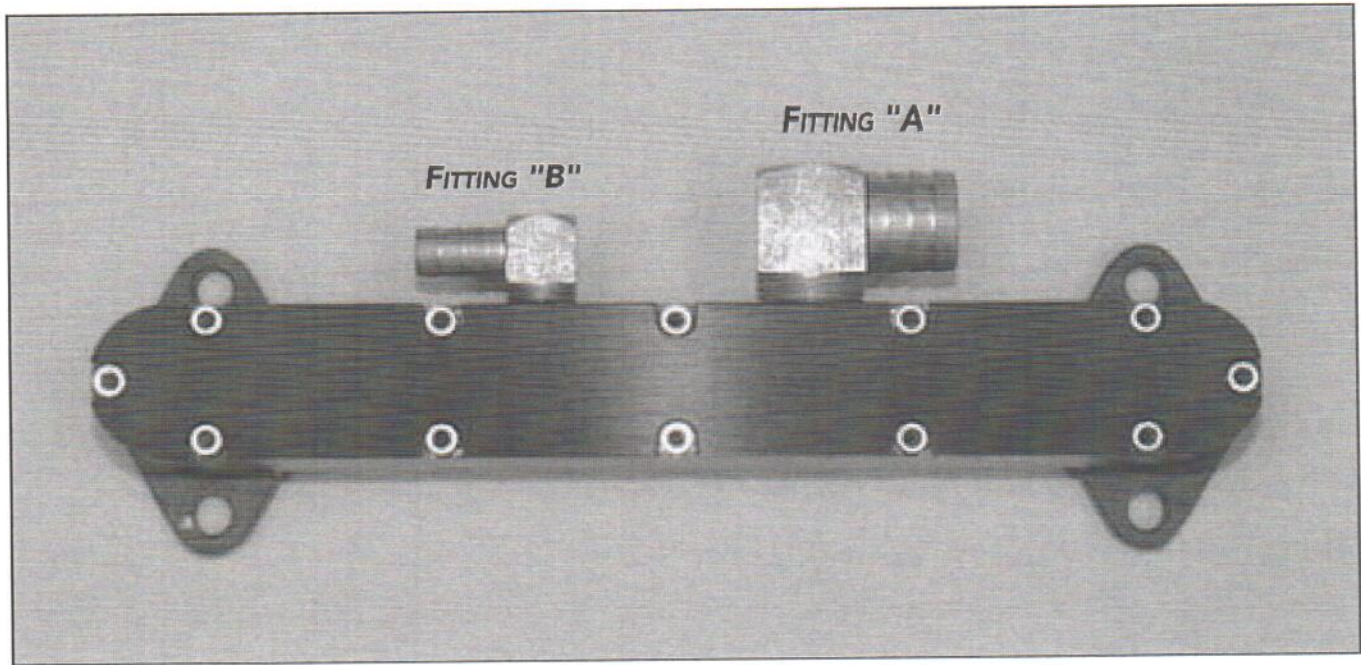

FIGURE E1
2. With the mounting pad installed, the carburetors may be installed in the enclosure, and the lines and linkages connected (refer to figures E1&E2).